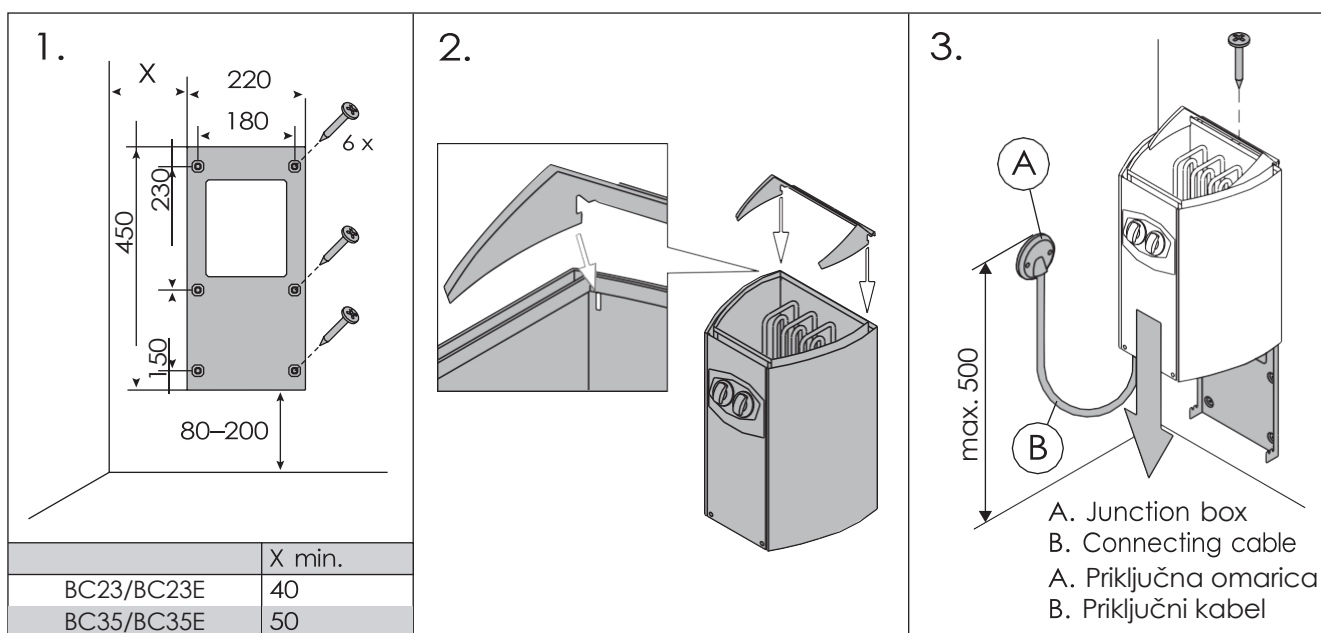

Figure 7. Fastening the heater on a wall (all dimensions in millimeters)
See figure 7.
- The heater is semi-stationarily connected to the junction box (figure 7: A) on the sauna wall. The junction box must be splash-proof, and its maximum height from the floor must not exceed 500 mm.
- The connecting cable (figure 7: B) must be of rubber cable type H07RN-F or its equivalent. **NotE! Due to thermal embrittlement, the use of PVC-insulated wire as the connecting cable of the heater is forbidden.**